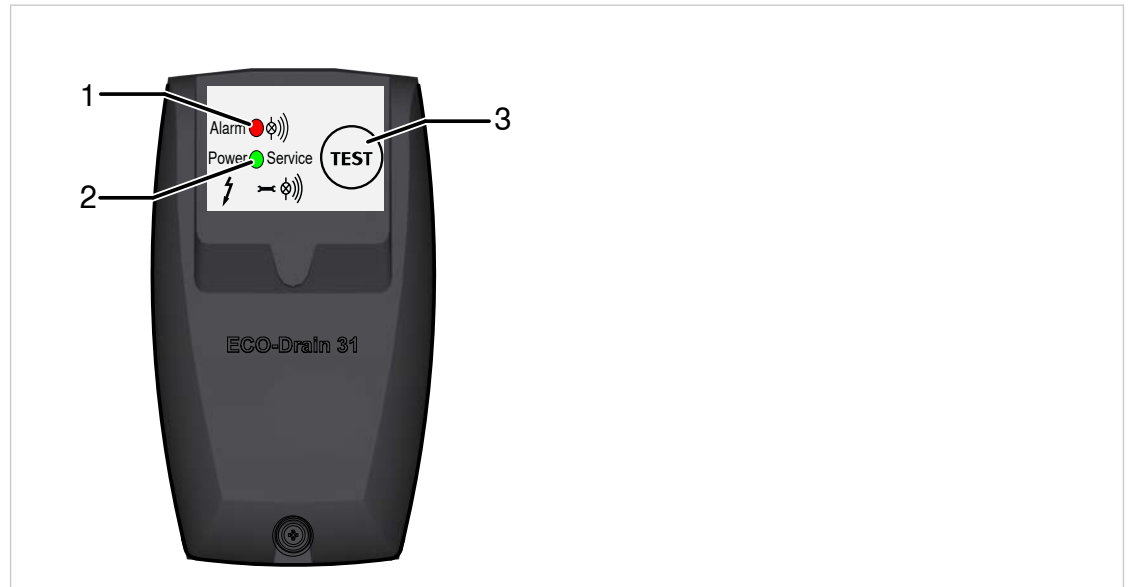

Fig. 30 Checking the condensate drain
1. Check that the shut-off valve ⑨ is closed.
2. Hold down the TEST key (③ Fig. 30 Checking the condensate drain) for at least 2s to vent the condensate drain.
- ❓ In the event that the condensate drain cannot be vented by pressing the TEST key, loosen the clamping nut ⑬ on the shut-off valve ⑨ until compressed air escapes from the ventilation hole. When this happens, you will hear a brief whistling sound. Should this not be the case, retighten the clamping nut and contact an authorized KAESER service representative.
3. Completely unscrew the screw connection ⑥ on the condensate line.
4. Press the snap fastener ⑤ and carefully remove the control module ② from the service unit ①.
5. Unscrew the screw-in part ⑪ from the service unit ① and place aside.